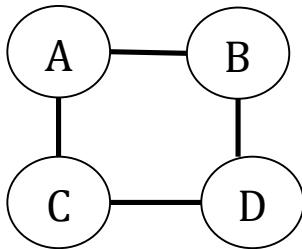

Figure 1. Current Layout
5. A firm with 4 departments has the load matrix shown in Table 1 and the current layout is shown in Figure 1.